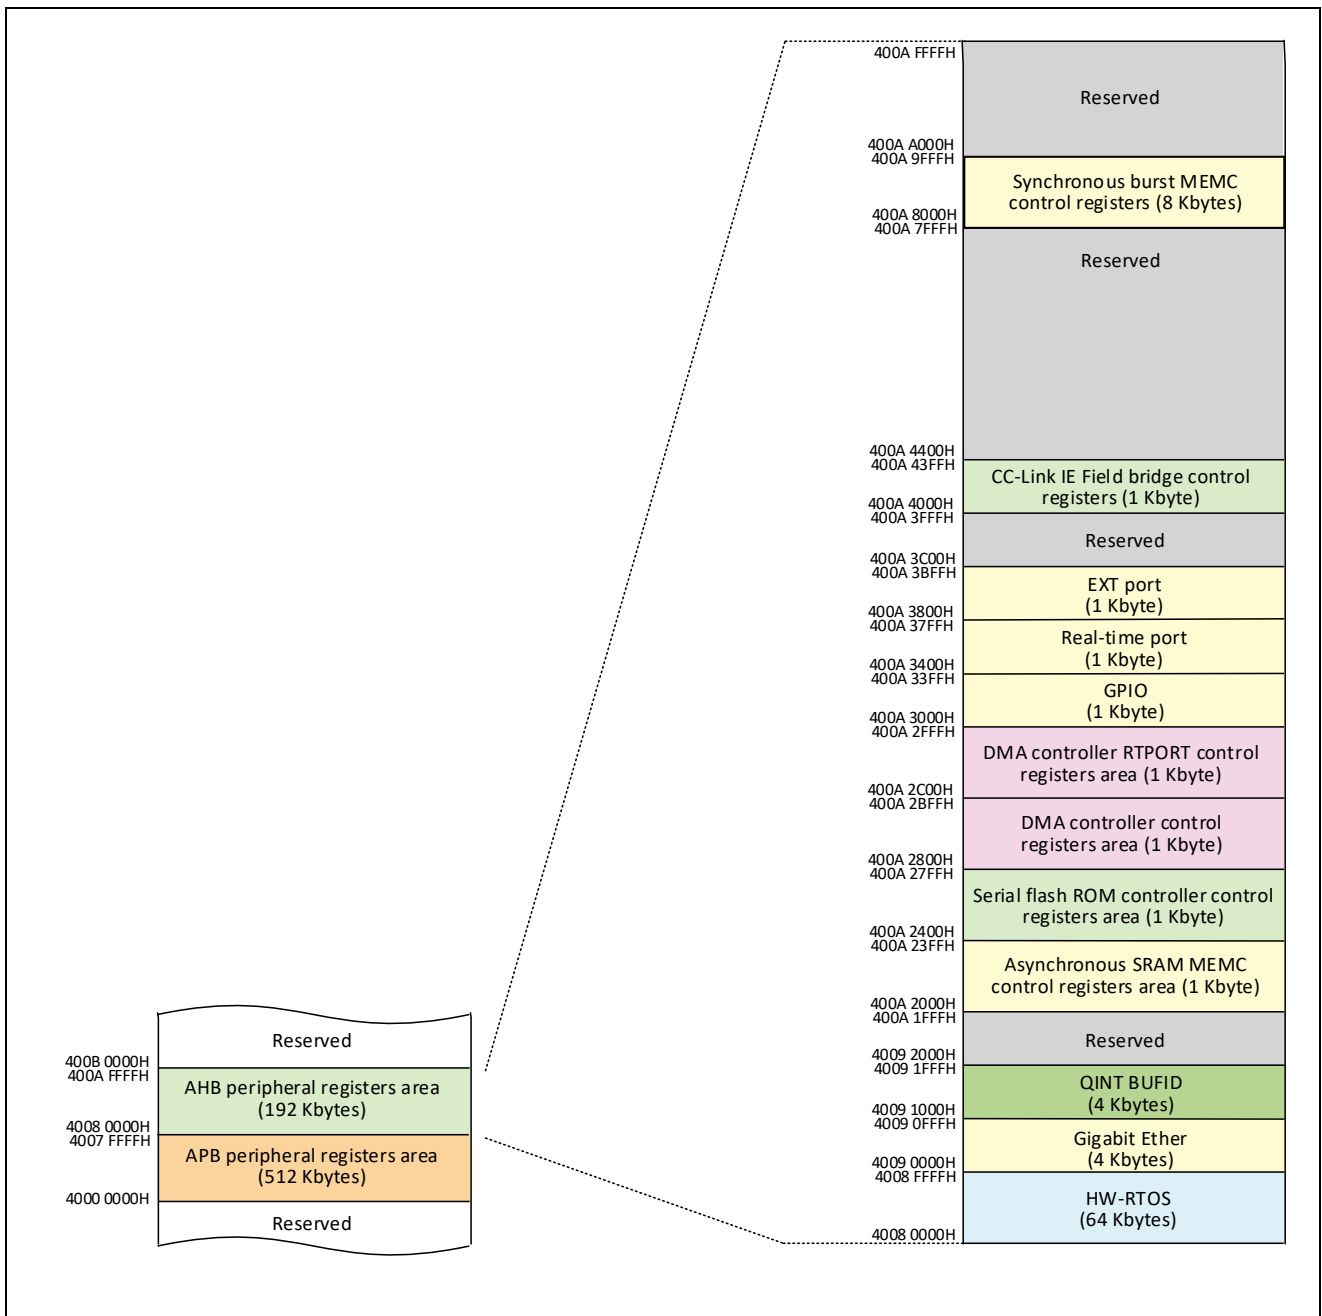

Figure 3.3 Memory Map (AHB Peripheral Registers Area)
- Note 1.** The upper 52 Kbytes of the AHB peripheral registers area cover the range from the GPIO area to the synchronous burst memory controller control registers. For details, refer to “Figure 3.3 Memory Map (AHB Peripheral Registers Area)”.